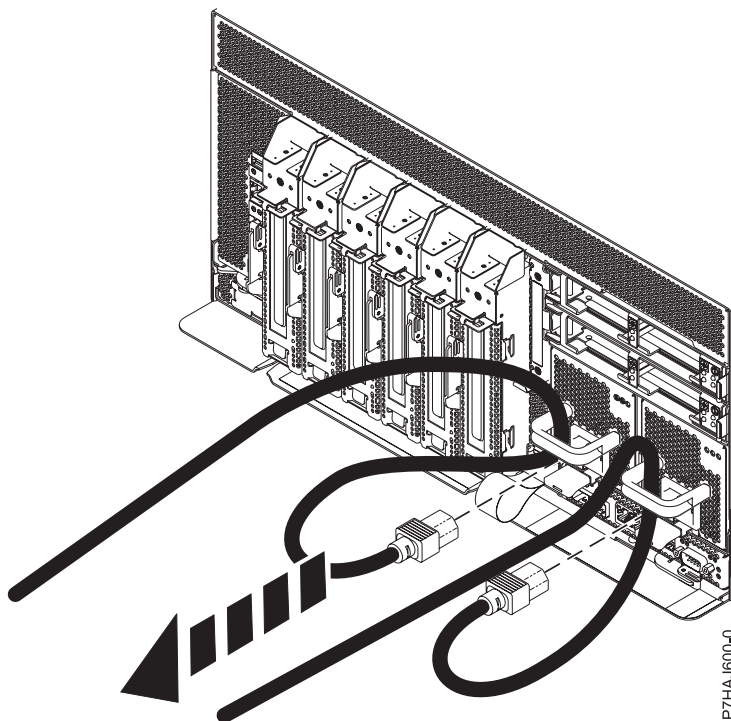

Figure 16. Removing the power cords
3. Disconnect the power cords from the system unit as shown in Figure 16.